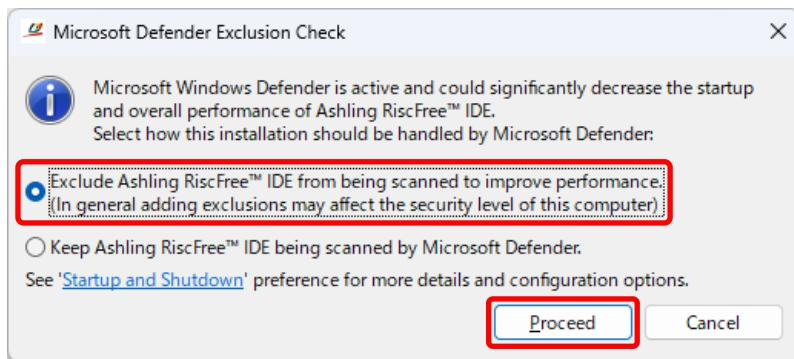

Figure 40 Microsoft Defender Exclusion Check screen
4. If the pop-up shown in Figure 40 appears, check "Exclude Ashling ..." and click **Proceed**.